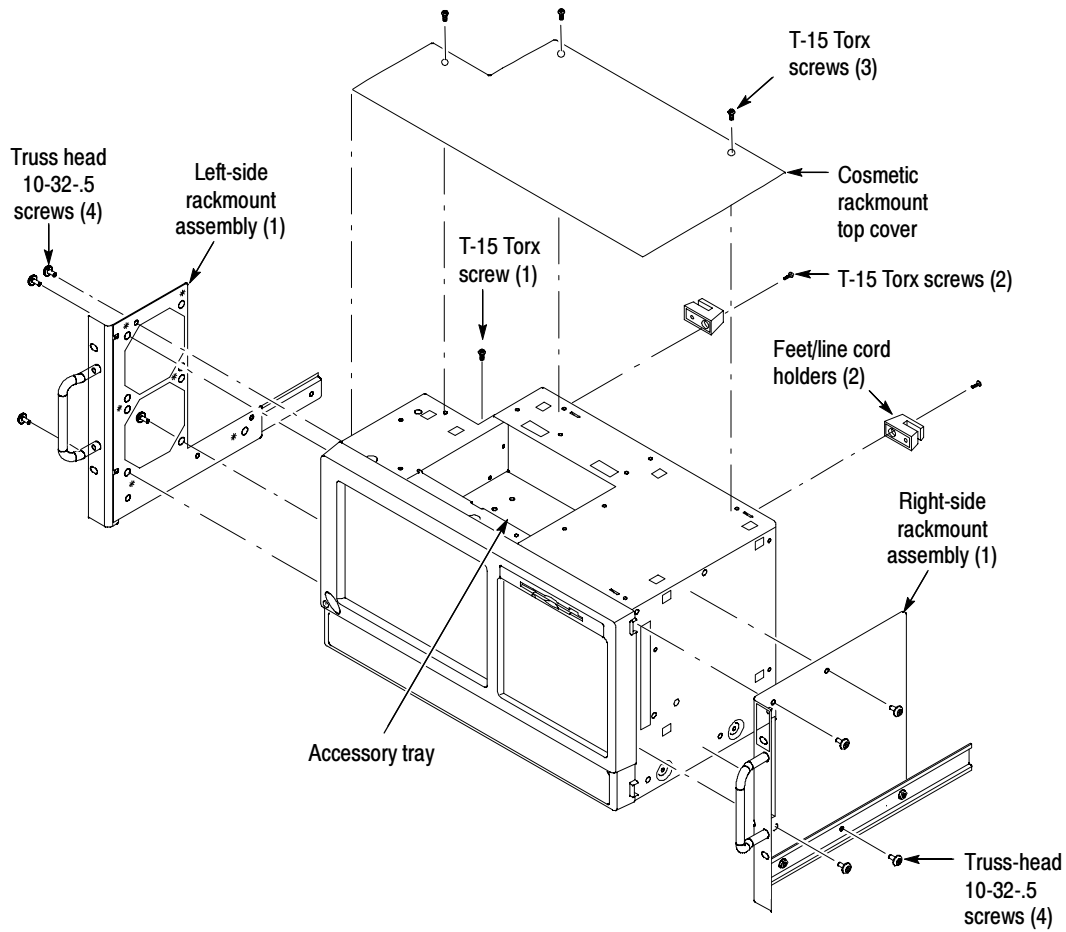

Figure 8: Installation of rackmount assemblies
9. Remove three T-15 Torx screws from the top of the instrument, which enables the metal cosmetic rackmount top cover to be installed. Refer to Figure 8 on page 15.
4. Install the right-side rackmount panel assembly to the right side of the instrument. Secure it by using the four 10-32 Truss-head Phillips screws, applying 28 inch-lbs of torque. Refer to Figure 8 on page 15.
7. If desired, install the cosmetic top cover using three Torx screws from the instrument. See Figure 8 on page 15.